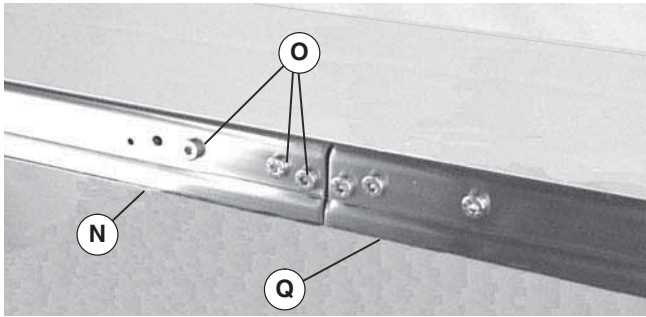

Figure 7
5. Join conveyor sections (Figure 7, item N and Q). Install screws (O) through frame and into connector bar (P) on both sides. Tighten screws to 60 in-lb (7 Nm).